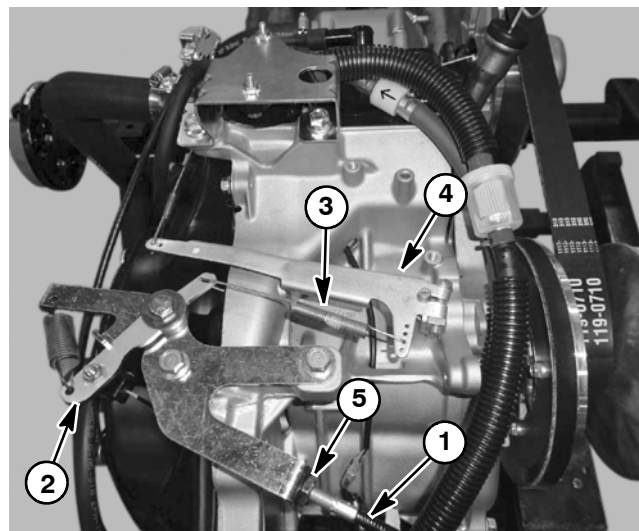

Figure 3
2. Lift cargo box and prop with rod to gain access to the engine (Fig. 3).